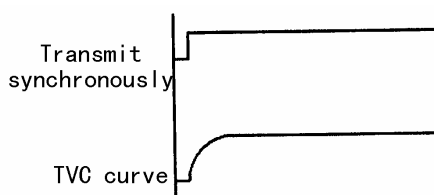
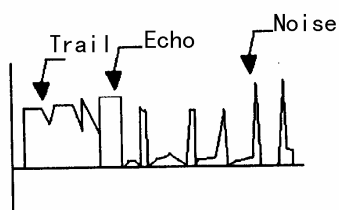

Fig. 36
Fig. 37
4) Observe TVC curve by oscilloscope. Adjust the potentiometer RP301, RP302 on the receiving card to make initial voltage 5v and time-control 15ms, as shown in Fig. 36 (5V/div, t=10ms). The wave shape of echo is shown as Fig. 37. Keep eyes on the echo and decrease manual gain step by step until the echo is shown as Fig. 38. If the gain is lowered to 0, but the trail is still very large, please adjust the gain potentiometer RP300 on the receiving card anticlockwise to decrease the gain until the shape of echo is shown as Fig. 38. Echo's amplitude changes a lot in practice. If more than 50% are larger than 6V, that's OK. Then cut off the power supply of display control box and recover after 10 seconds.